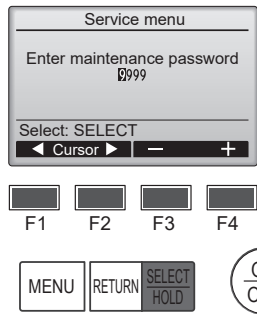

Fig. 7-2
- ① Select "Service" from the Main menu, and press the [SELECT/HOLD] button. (Fig. 7-2)
- ② When the Service menu is selected, a window will appear asking for the password. (Fig. 7-2)